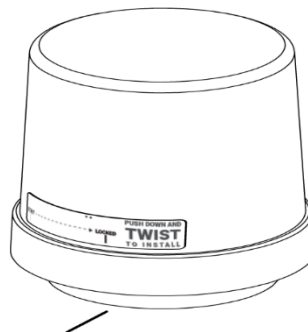

Figure 3 – Locked Position
8. Confirm the Controller is properly installed by checking if the "North Arrow" mark is in the "LOCKED" range on the device's label. (The travel for locking is about 1") **(See Figure 3)**
10. On power up (and until commissioned in a SimplySnap system), the TL7-DALI-DC(NG) will immediately go to 100% dimming, then fade to 0% over 60 seconds, then back to 100%. If it does not dim, the device is not twisted into the proper position.